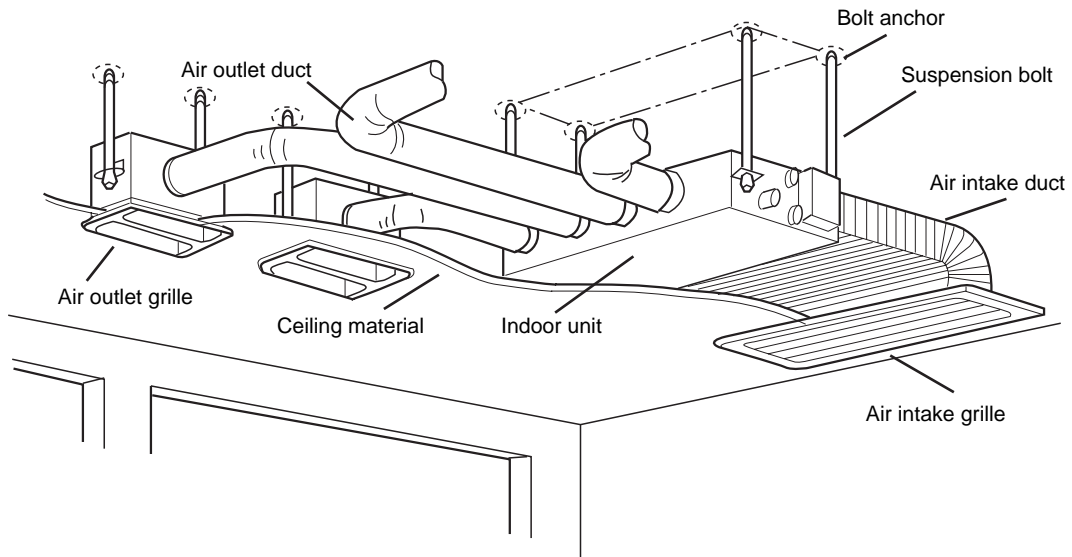

Fig. 3-87
- Fig. 3-87 shows an example of installation.